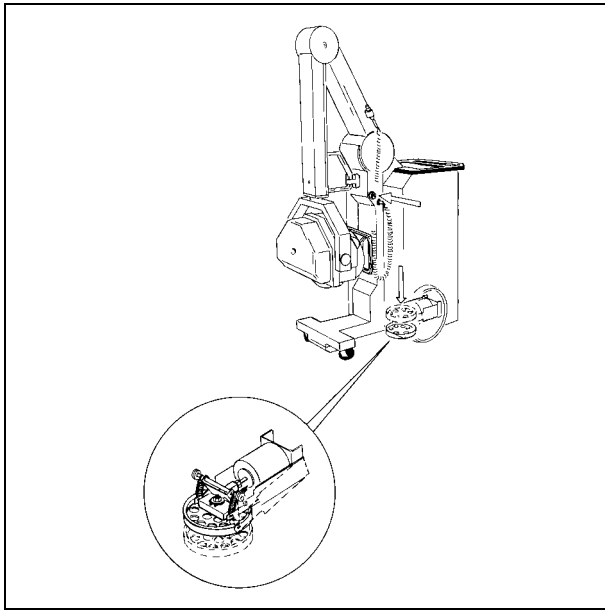

Fig. 7
- Check that the unit can rotate around the turn plate, see Fig. 7.